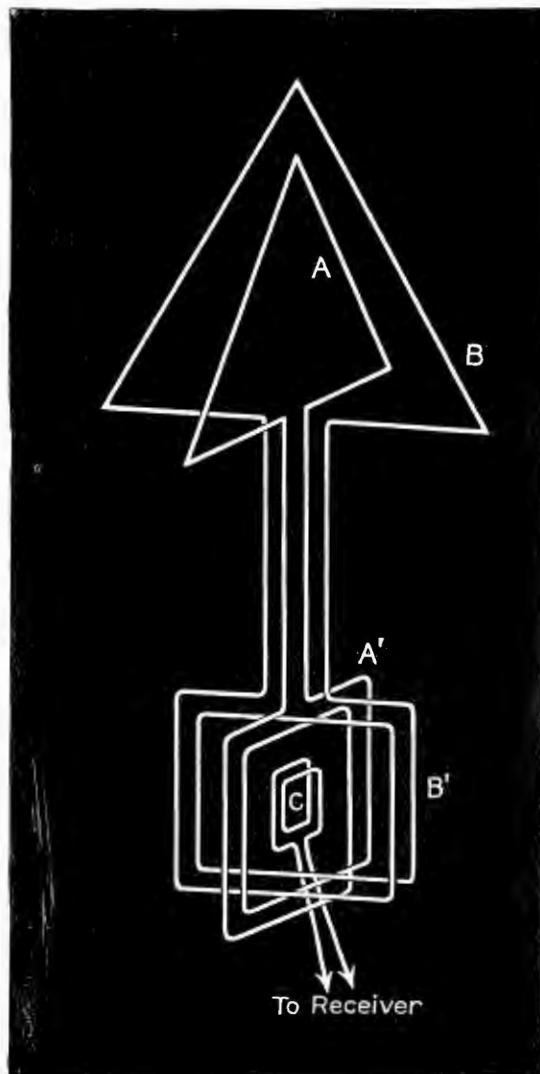
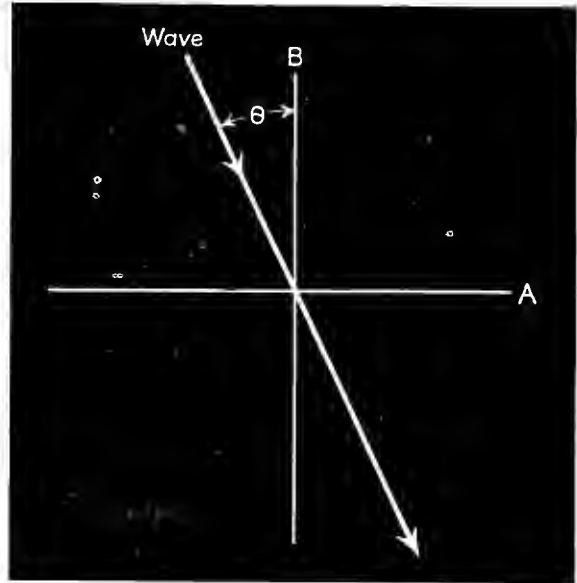

Figure 1
Figure 2
In this system the main directional antenna consists of two fixed loops at right angles to each other (Figure 1) the plane of one running fore and aft on shipboard, the plane of the other place parallel to the beam of the vessel. Loop A is joined to a goniometer coil, A', and loop B to B', both goniometers being located in the control room and as is evident from the diagram, A' and B' are at right angles to each other. C is a rotatable search coil magnetically coupled to the goniometers.
Let us now consider the general case of fixed loop reception. The two loops of Figure 1 may be set up in any two vertical planes at right angles to each other. In order that each of them, treated as a separate antenna may have the same voltage induced in it by a passing wave in its own plane, both loops, theoretically, should have the same area since the e-m-f is a direct function of A . Suppose that a wave whose electric field is $E_m \sin \omega t$ is incident on the system at an angle θ with the plane of the loop B, and therefore at an angle $(90^\circ - \theta)$ with the plane of the loop A (Figure 2). Remembering that ω equals $2\pi f$, and substituting equation (2) in equation (1), we obtain . . .